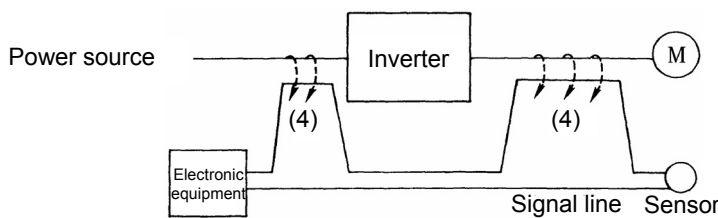
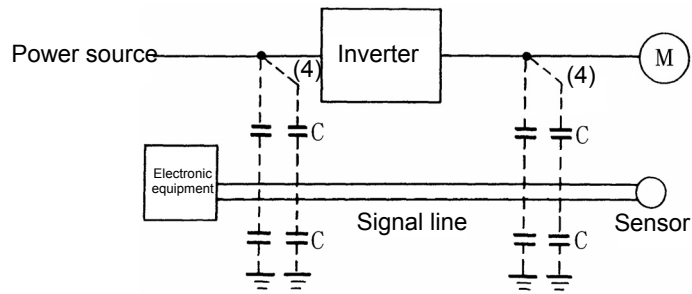

Figure A.4 Electromagnetic Induced Noise
Figure A.5 Electrostatic Induced Noise
(2) Induction noise
When wires or signal lines of peripheral devices are brought close to the wires on the input and output sides of the inverter through which noise current is flowing, noise will be induced into those wires and signal lines of the devices by electromagnetic induction (Figure A.4) or electrostatic induction (Figure A.5). This is called "induction noise" (4).